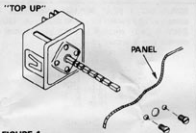
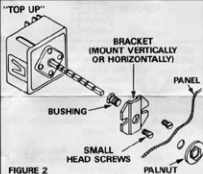
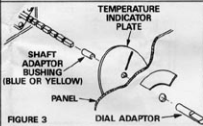

FIGURE 1
FIGURE 2
FIGURE 3
1. Determine mounting type, screw (figure 1) or nut (figure 2), and mount control accordingly. If temperature indicator plate is used refer to figure 3. **NOTE:** Word "TOP" on rear of control must be installed UP for proper calibration.
5. Take the SLIP-FIT overlay, Fig. 1, and carefully remove the clear protective covering over the numbered side. Begin removal from the inside edge of the overlay. See Fig. 4.